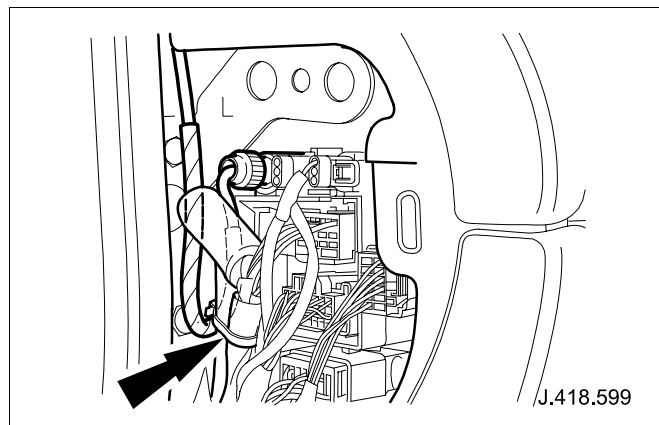

Fig. 29
- 104 Using suitable ratchet strap, secure foam covered plug/lead to vehicle harness. (See Fig. 29)